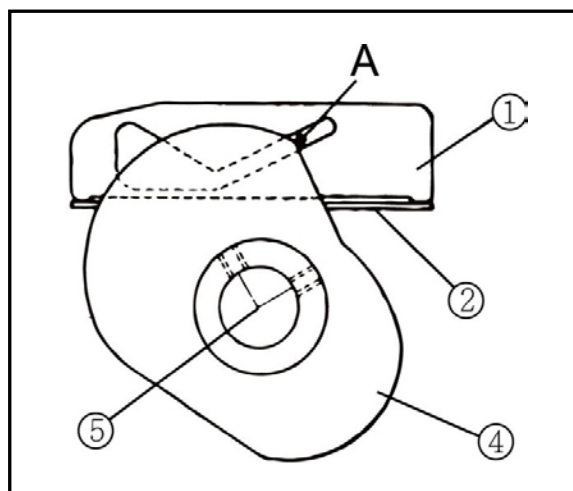

Fig. 41
Check Fig. 41 to see Top looper thread take-up
Loosen the screws ⑤ to adjust it. (Fig. 41 & 42)